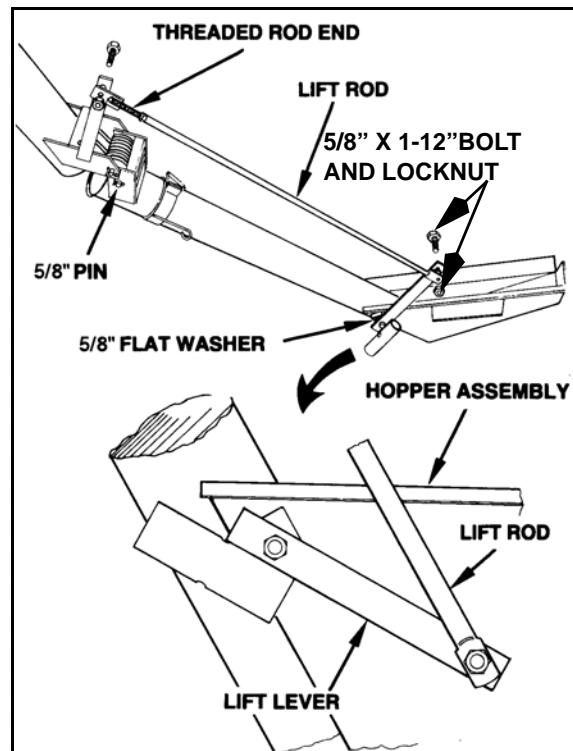

Figure 3.5 Threaded Rod End
5. Slip a $5/8"$ flat washer and the lift lever onto welded bolt on the hopper (Figure 3.5) and secure with a $5/8"$ locknut. Tighten snug only, as this acts as a pivot point.
6. Attach the lift rod to lift lever (Figure 3.5) with a $5/8" \times 1-1/2"$ bolt and locknut. Tighten snug only; this bolt acts as a pivot point.